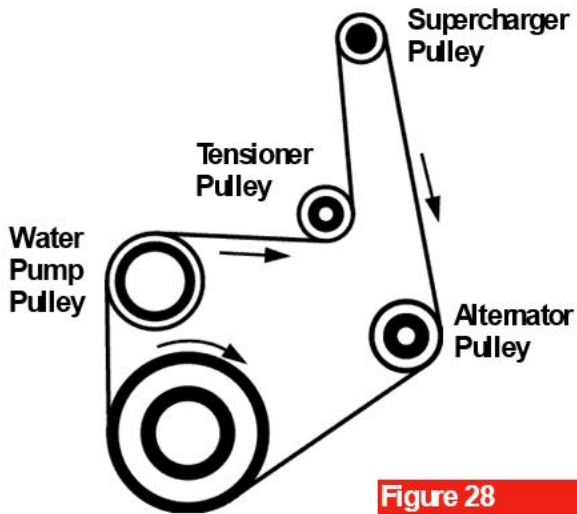

Figure 28
6. Place the drive belt over the water pump pulley, the crankshaft pulley and the alternator pulley (figure 28). Make sure the belt is on the correct sides of and properly seated in the grooves of each pulley.